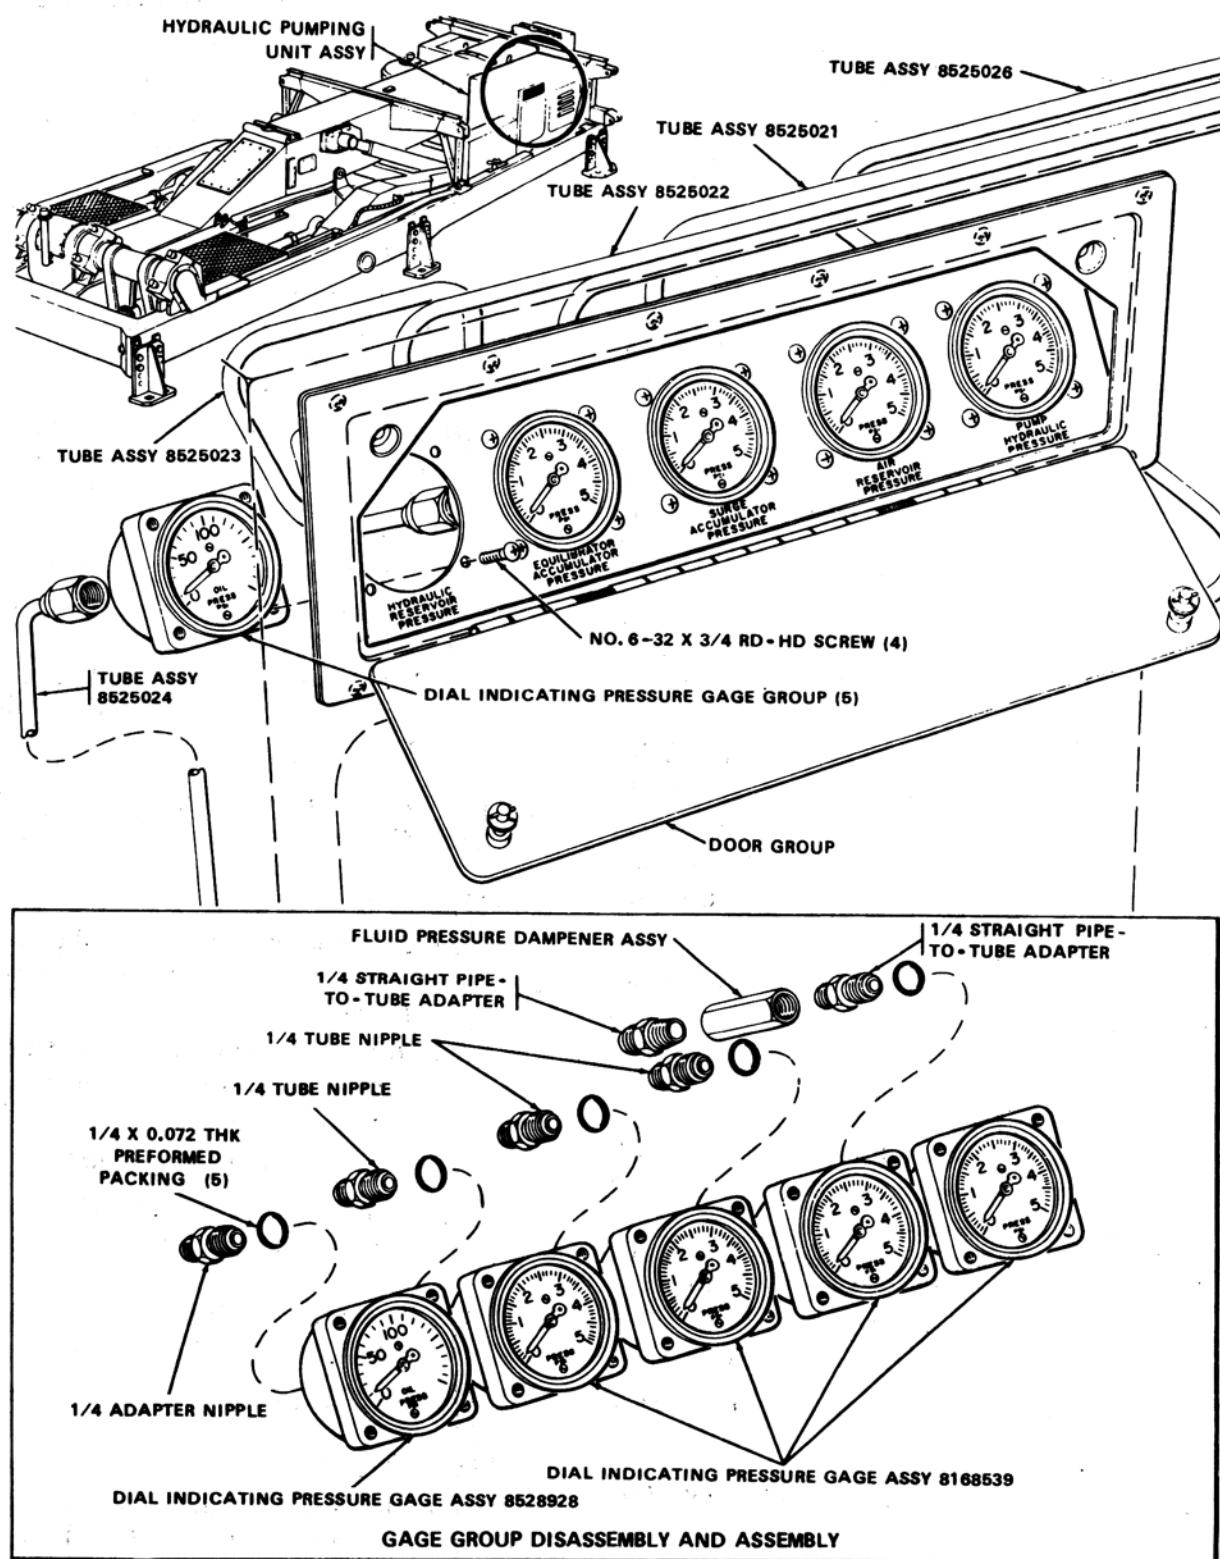

Figure 148. Dial indicating pressure gage group — removal and installation — typical.
- (b) Remove hydraulic unit door assembly (fig. 123) and open door group (fig. 148).
(d) Install the hydraulic unit door assembly (fig. 123) and close the door group (fig. 148).
(b) Remove the hydraulic unit door assembly (fig. 123) and open the door group (fig. 148).
- (a) Check all connections for air leakage; if there are any leaks, remove attaching tube assembly as described in w(1) below.
- (c) Replace all defective parts and install tube assembly as described in w(2) below.
- (d) Install hydraulic unit door assembly (fig. 123) and close door group (fig. 148).
- (c) Remove hydraulic unit door assembly (fig. 123) and open door group (fig. 148).
- (a) Check all hydraulic connections for fluid leakage; if there are any leaks, remove attaching tube assembly, as described in w(1) below.